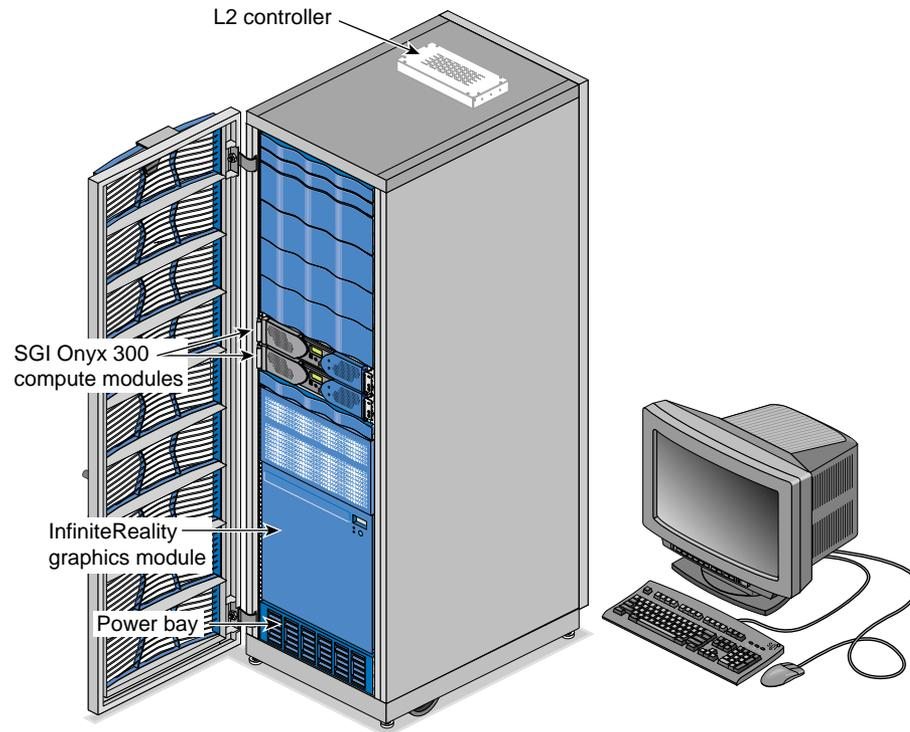

Figure 1-4 Standard System Components
The SGI Onyx 300 system consists of the following standard components, as shown in Figure 1-4.
- Power distribution unit (PDU) (not shown in Figure 1-4)
- USB extender (not shown in Figure 1-4)